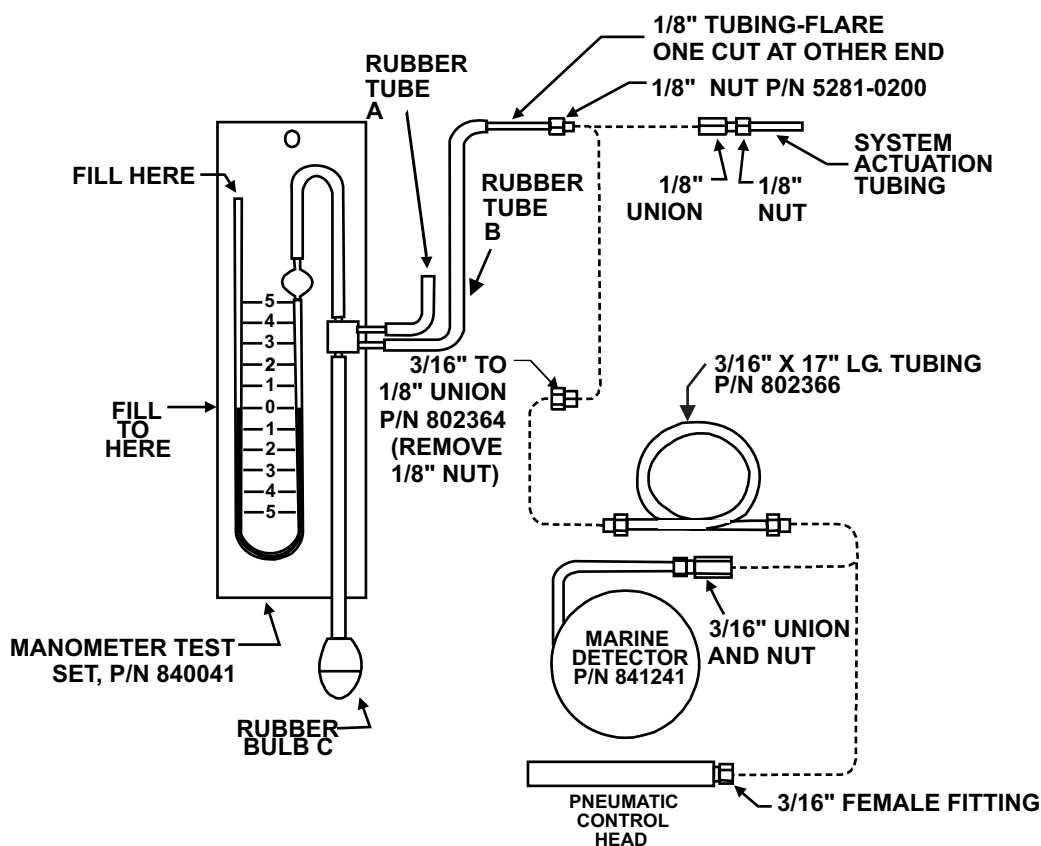

Figure 5-9. Manometer Test Set
Pressure setting; see Figure 5-9.
4. Use manometer test set (P/N 840041, Figure 5-9) and pour water into the open tube until the water level in both tubes is exactly at the zero mark. (The test set is not furnished as part of the system.)
1. Install manometer in system tubing at pneumatic control head connection. Replace union connection with a control heat "T." Close open tube "A" of the manometer (see Figure 5-9) with crimp clamp. The manometer is now an integral part of the system and provides a visual record of pressure to which system is subjected by heat or cold at the detector.